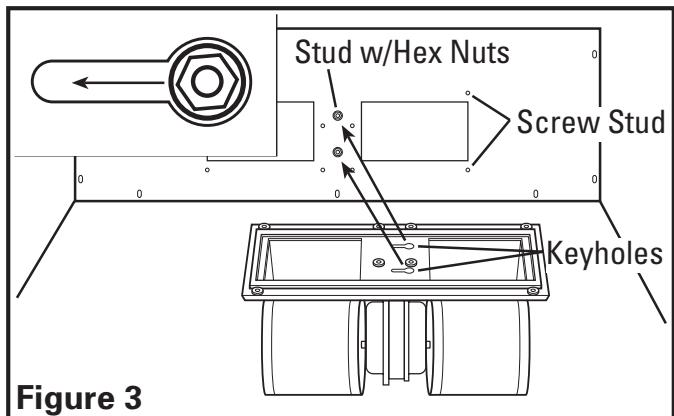

Figure 3
3. Lift blower up into the hood canopy and slide the keyhole slots in the blower mounting flange over the two studs of the hood. Slide the blower into place and tighten the hex nuts on the mounting stud while lining up the 8 holes in the blower mounting flange to the 8 screw studs of the hood (**Figure 3**).
4. Lift blower up into the hood canopy and slide the keyhole slots in the blower mounting flange over the two studs of the hood. Slide the blower into place and tighten the hex nuts on the mounting stud while lining up the 8 holes in the blower mounting flange to the 8 screw studs of the hood (**Figure 3**).